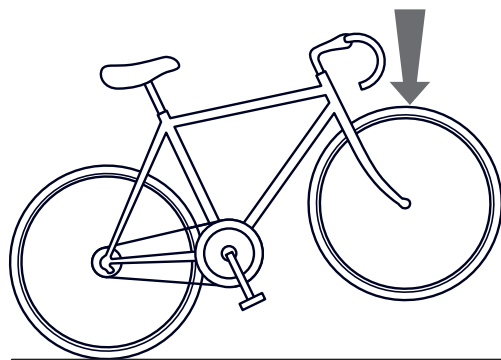

Fig. 22
- An approximate assessment of the correct wheel locking can be carried out with the following check: lift the front wheel by lifting the bicycle from the handlebar (Fig. 22) and strike the wheel from the top to see if it stays firmly in position.